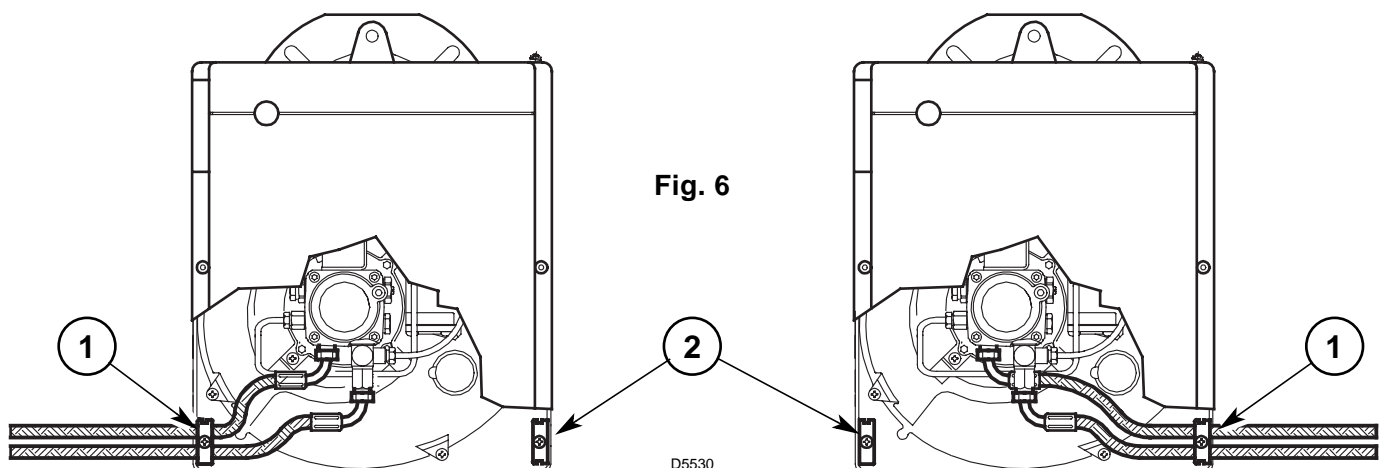

Fig. 6
Depending on the oil supply pipes position (to the right or to the left hand side of the burner) the fixing plate (1) and closing plate (2) should be reversed, (see fig. 6).